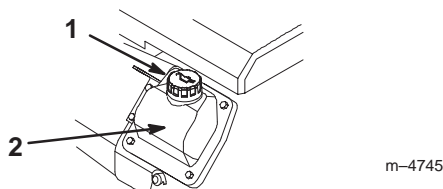

Figure 5
8. If the oil level is low, clean around the oil filler cap and remove the cap (Fig. 5).